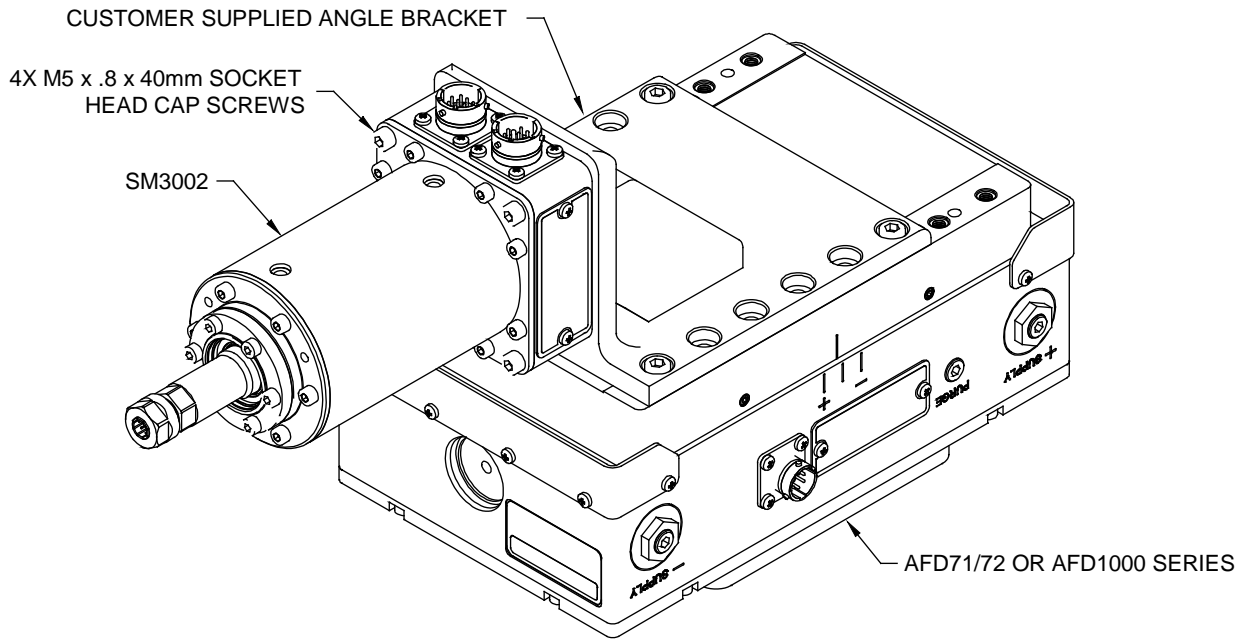

Figure 2. SM3002 Parallel-Axis Configuration
The Parallel-Axis configuration, shown in Figure 2, illustrates the attachment of the SM3002 to the AFD Carriage with a customer supplied angle bracket. The Mounting Bracket is first attached to the AFD Carriage using the customer’s fasteners. Then the SM3002 is positioned on the Mounting Plate, and securely attached using four (4) M5x.8x40mm Socket Head Cap Screws. Tighten the four (4) M5x.8 Socket Head Cap Screws to the torque specified in Section 4.0.